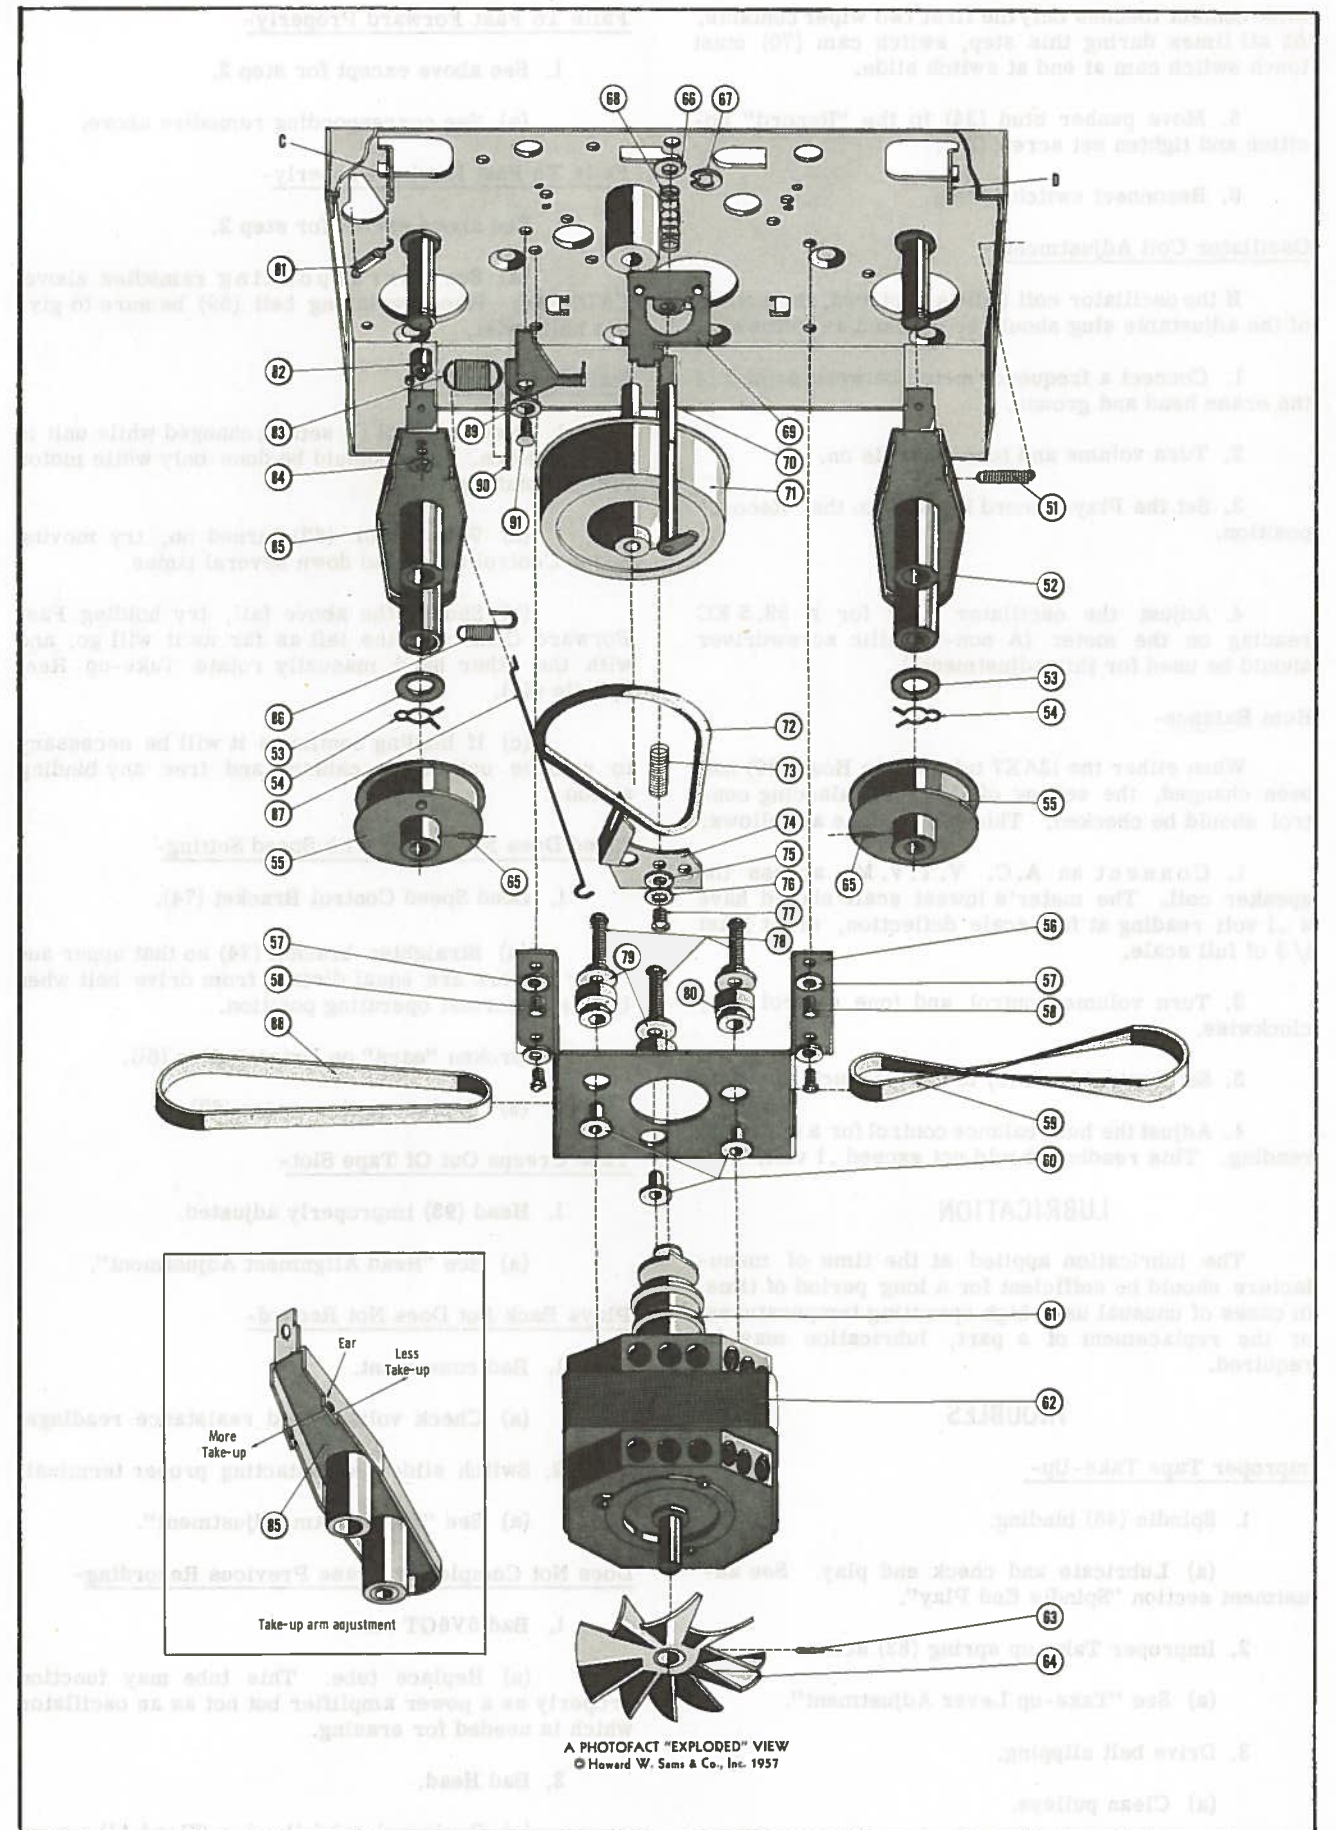

FIGURE 3B. EXPLODED VIEW OF PARTS BELOW BASEPLATE.
Stops, labeled "C" and "D" on Figure 3B, located on baseplate (22) controls the above action. They regulate the amount of return that take-up arm (85) or rewind arm (52) makes after controls have been released; not sufficient return would cause continued Fast Rewind or Fast Forward operation, while too much return would not allow drive belts (88) or (59) to put a drag on the respective pulleys. Bend these stops carefully so as to obtain operation described above. Stop "C" controls the take-up side while stop "D" controls the rewind side.